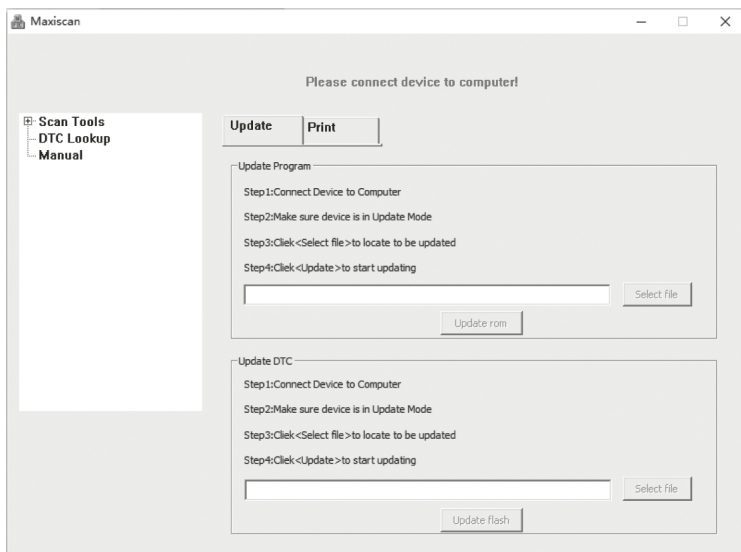

Figure 4.34
- 2) Run the Maxiscan in your computer.(Figure 4.34)